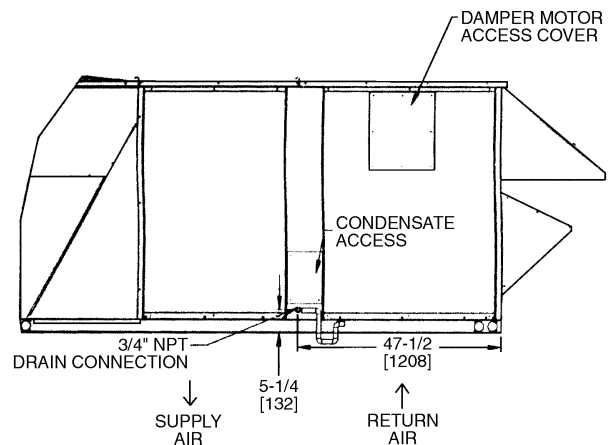
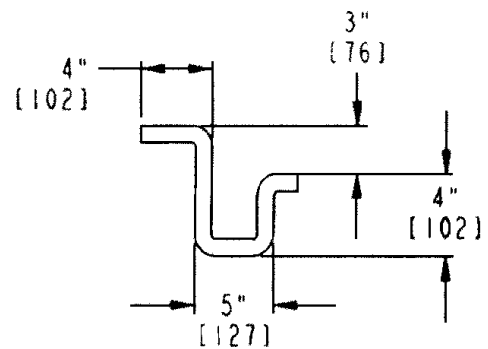

Fig. 10 — Condensate Drain Details
Fig. 11 — Condensate Drain Piping Details
Step 6 — Trap Condensate Drain — See Fig. 10 for drain location. One 3/4-in. half coupling is provided outside unit evaporator section for condensate drain connection. A trap at least 4-in. deep must be used. See Fig. 11.